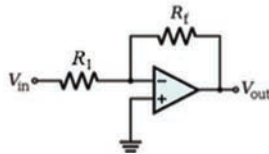

Figure 9.41 Ch 9: No. 8, self-test
8. Determine the output voltage, input and output impedance for the circuit shown in Figure 9.41, if V_{in} is 40 mV, R_1 is 1 k Ω , R_f is 40 k Ω , Z_{out} is 60 Ω , and A_{OL} is 130,000.